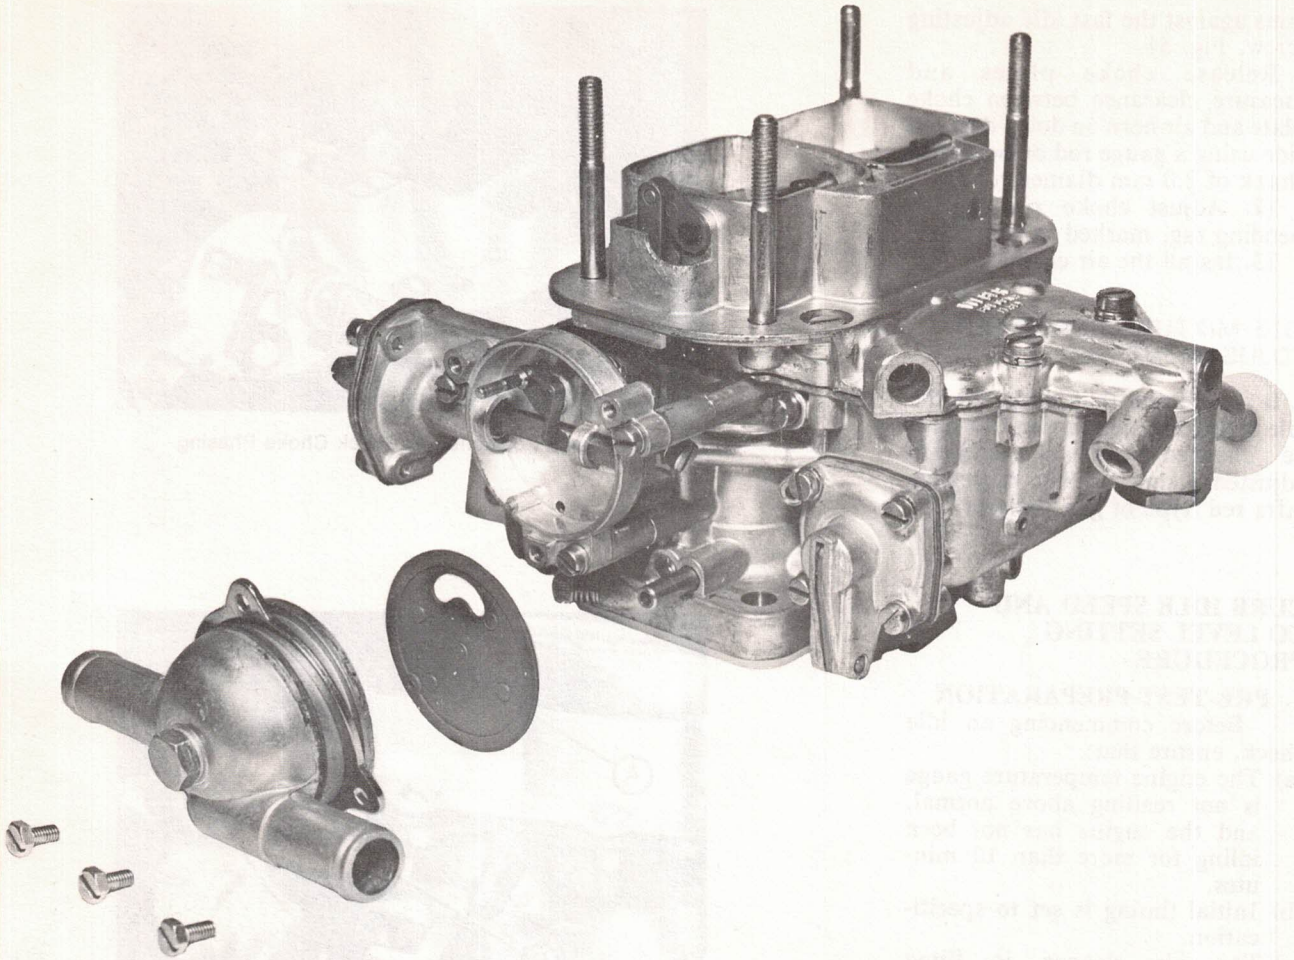

Fig. 53. Thermostatic Spring Cover Removal
3. Pull the water cover and thermostatic spring cover assembly away from the carburettor (Fig. 53).